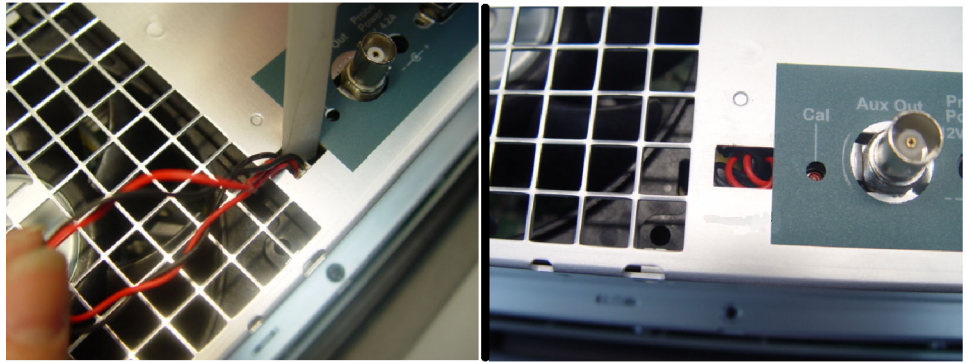

Figure 8: Reconnecting the fan cable
- e. After the rear chassis is reattached to the front chassis, use a spudger or a pair of needle-nose pliers to insert the fan power connector back through the hole and onto J200 on the I/O board. (See Figure 8.)
- f. Push the rest of the fan power cable into the hole, so that the entire cable is inside the Rear Chassis. (See Figure 8.)